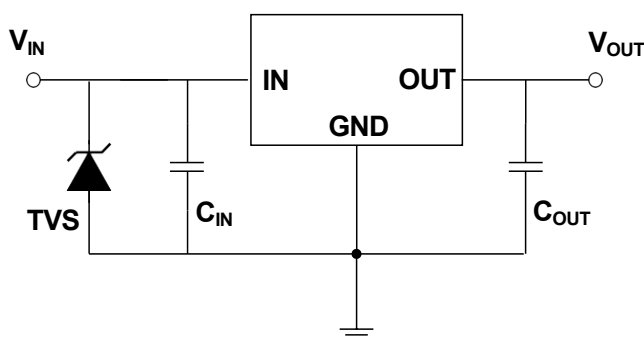

Figure 8-1. TVS is used at IN
1. Place a TVS between the IN and GND of the voltage regulator to absorb the peak voltage that may be generated due to ESD or other reasons. As shown in Figure 8-1;